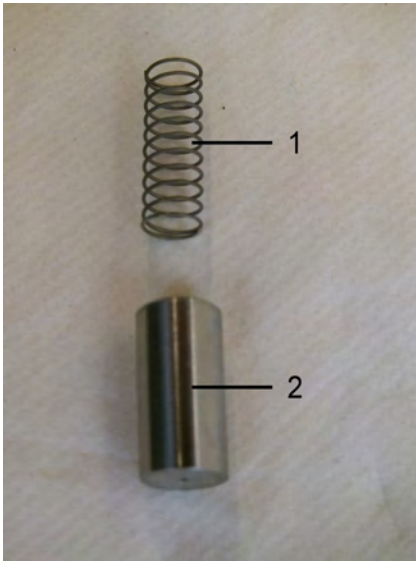

Fig. 44: Inner parts
3. ➤ Insert the Spring (Fig. 44/1) into the float (Fig. 44/2)